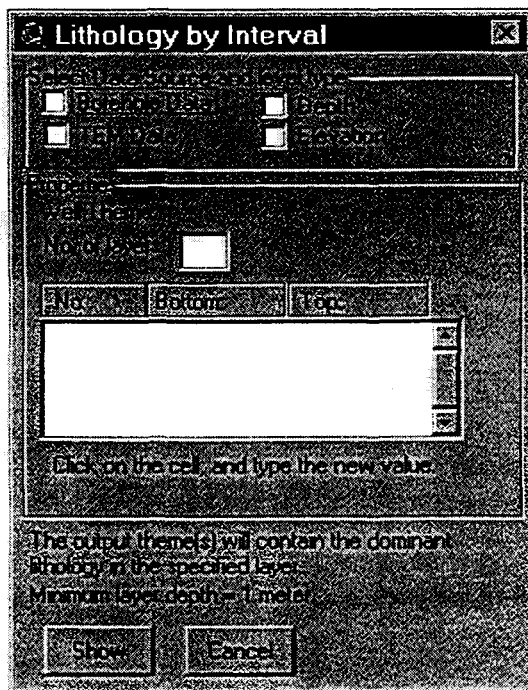

Figure 18 Lithology by Interval Dialog.
- Press the **Lit. by Interval** button to close the **Define Lithology Classes** dialog box and open the **Lithology by Interval** dialog box, see Figure 18.
- Press the **Lit. by Interval** to close the **Define Lithology Classes** dialog box, and open the **Lithology by Interval** dialog box, see Figure 18.
The intervals are defined in the **Lithology by Interval** dialog box, see Figure 18. This dialog box could be reached by pressing the **Lit. by Interval** button in the **Define Lithological Classes** dialog box.